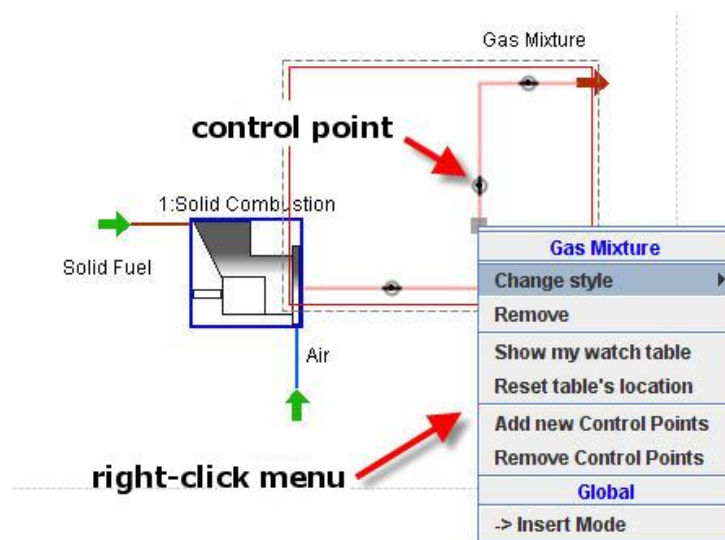

FIG. 8: Flow setting
4. Select the *flow* by left-clicking on the edge (between the block and connector) symbolizing the flow; edge control points will appear in the middle of each section of the edge (Fig. 8). Flow shape may be altered by dragging the control points over the canvas. (Note: flow doesn't have to be selected to do that, control points appear when you hover the mouse over the flow)
5. It is possible to add and remove the control points defining flow's shape. To do that, simply right-click on the flow and select either *Add new control points* or *Remove control points* from the popup menu (Fig. 8). You might notice a special cursor showing on the edge when you hover above it; this cursor helps you select the section from which to remove or where to add the control points.